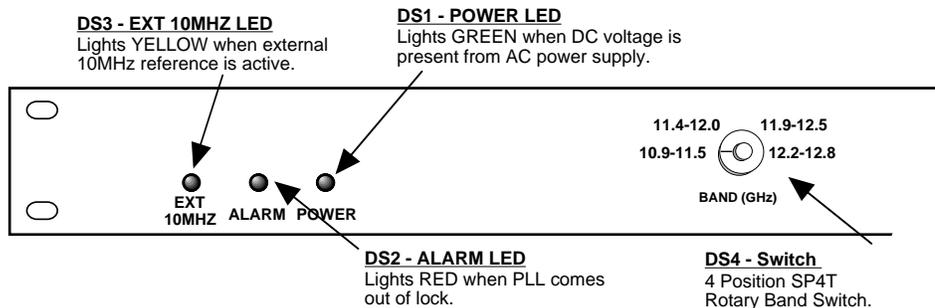

FIGURE 2.2 2116-41-109# Front Panel Controls and Indicators
Figure 2.2 shows the front panel indicators.
4. Be sure DS1 (green, DC Power) is on and DS2 (red, Alarm) is off (Figure 2.2).
6. If EXT is selected or AUTO is selected and there is a 10MHz, 3 dBm signal at J2, check that DS3 (yellow, Ext 10MHZ) is on (Figure 2.2).